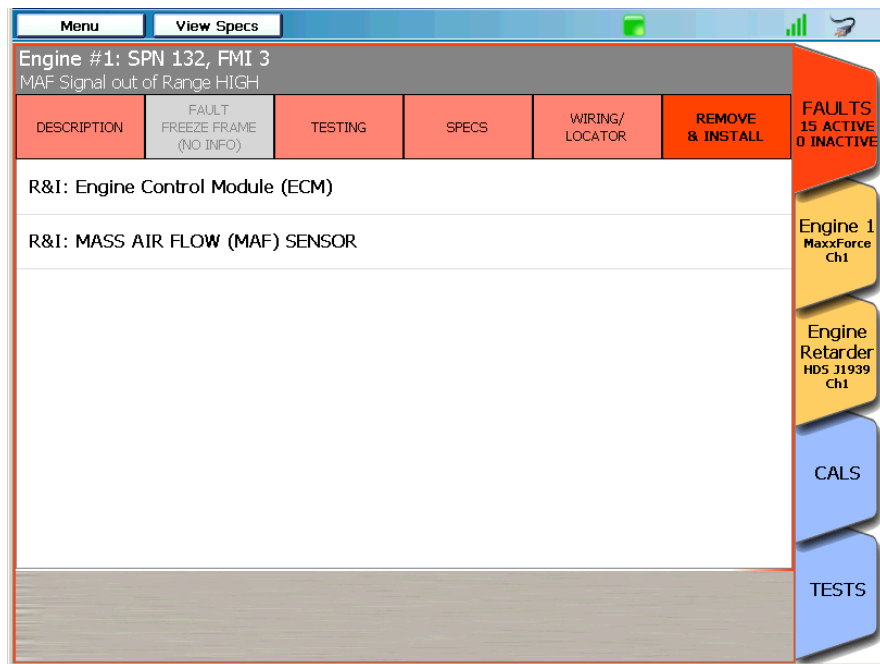

Figure 6.23 REMOVE & INSTALL Tab Activated
- 4 Use the green **Back Arrow** to go back to the list of instructions (Figure 6.23).